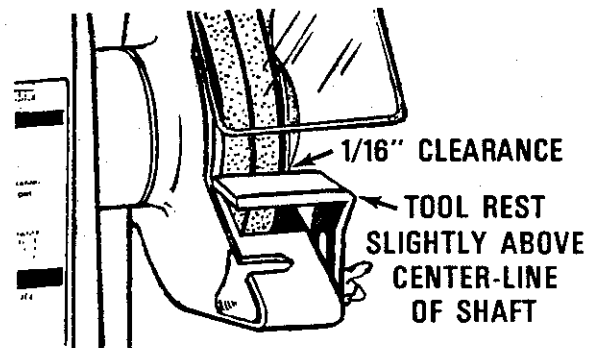

FIGURE 9
3. The tool rests should be positioned securely so that a clearance of approximately 1/16 inch can be maintained between wheel and tool rests. Adjust the tool rest so that the material to be ground will contact the wheel slightly above center-line of shaft at the desired angle, as shown in figure 9.